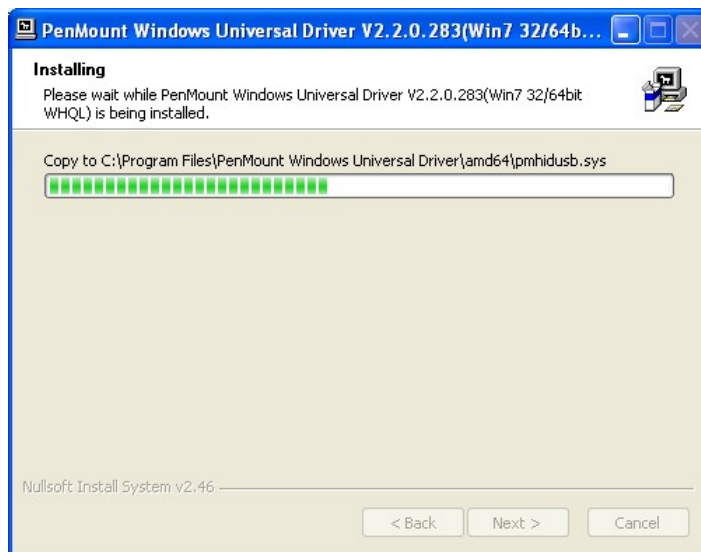

Figure 5-5: Installation Starts
Step 9: The installation of the program begins. See **Figure 5-5**.